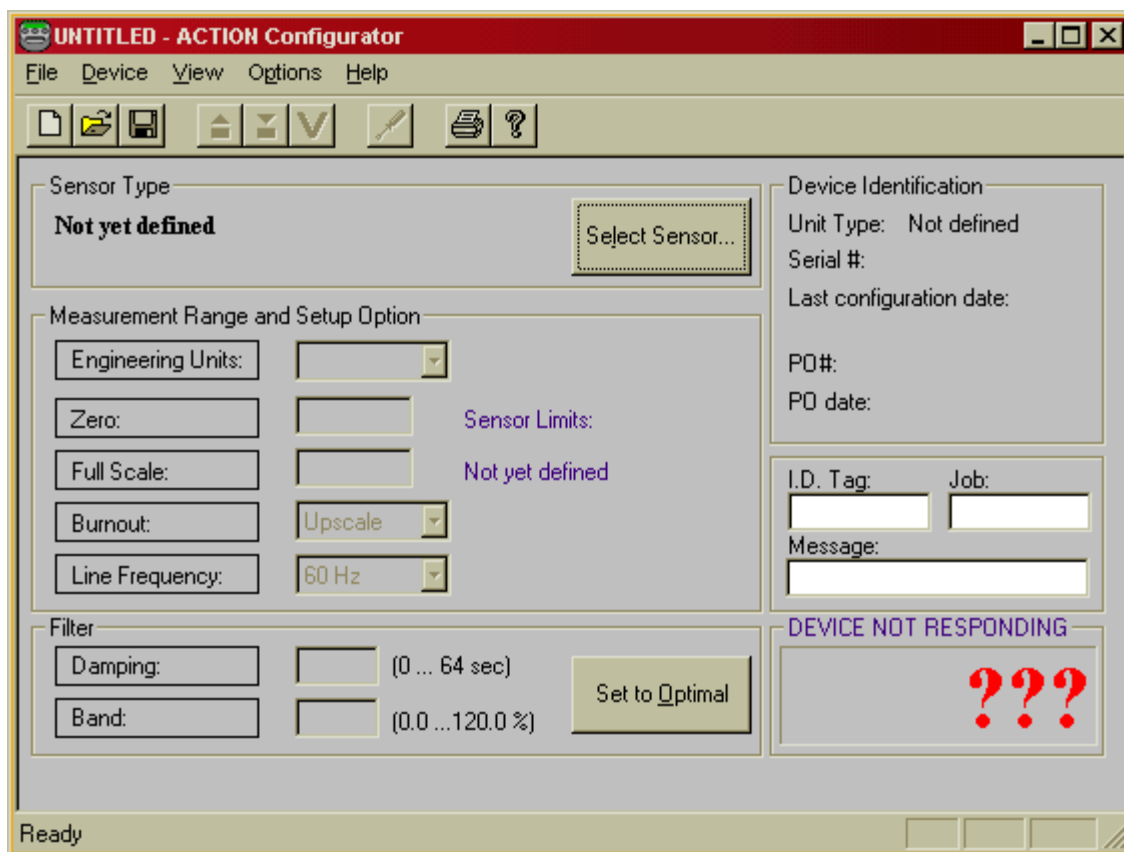

Figure 3.
4. When the connection is made and the program recognizes that a transmitter is connected to the serial port, the toolbar icons will become highlighted. If the transmitter was not automatically recognized, click on the “**UPLOAD**”  icon. This will begin the communication process between the transmitter and your PC. Once completed the transmitter's calibration and configuration settings will be loaded into your PC. (See Figure 3)
Figure 3 is an example of the screen that will be displayed when the user opens the program. From this point you must plug-in the transmitter to the computer for the next screen (See Figure 4) to appear.